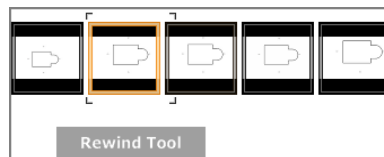

FIGURE 1.36: Because Revit doesn't include zoom commands in the Undo function, you can rewind to find previous views.
3. Click and hold Rewind in the steering wheel. You can now find an older view, as shown in Figure 1.36.